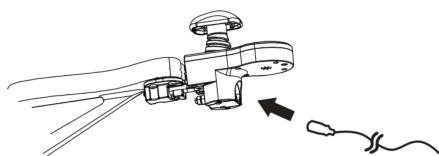

fig.8
6.1.8 Charger Socket: It is only used to this wheelchair. Do not use the socket to supply power to any other electrical equipment. Otherwise, it may damage the wheelchair's control system or its E.M.C performance (Electromagnetic tolerance)(fig8).